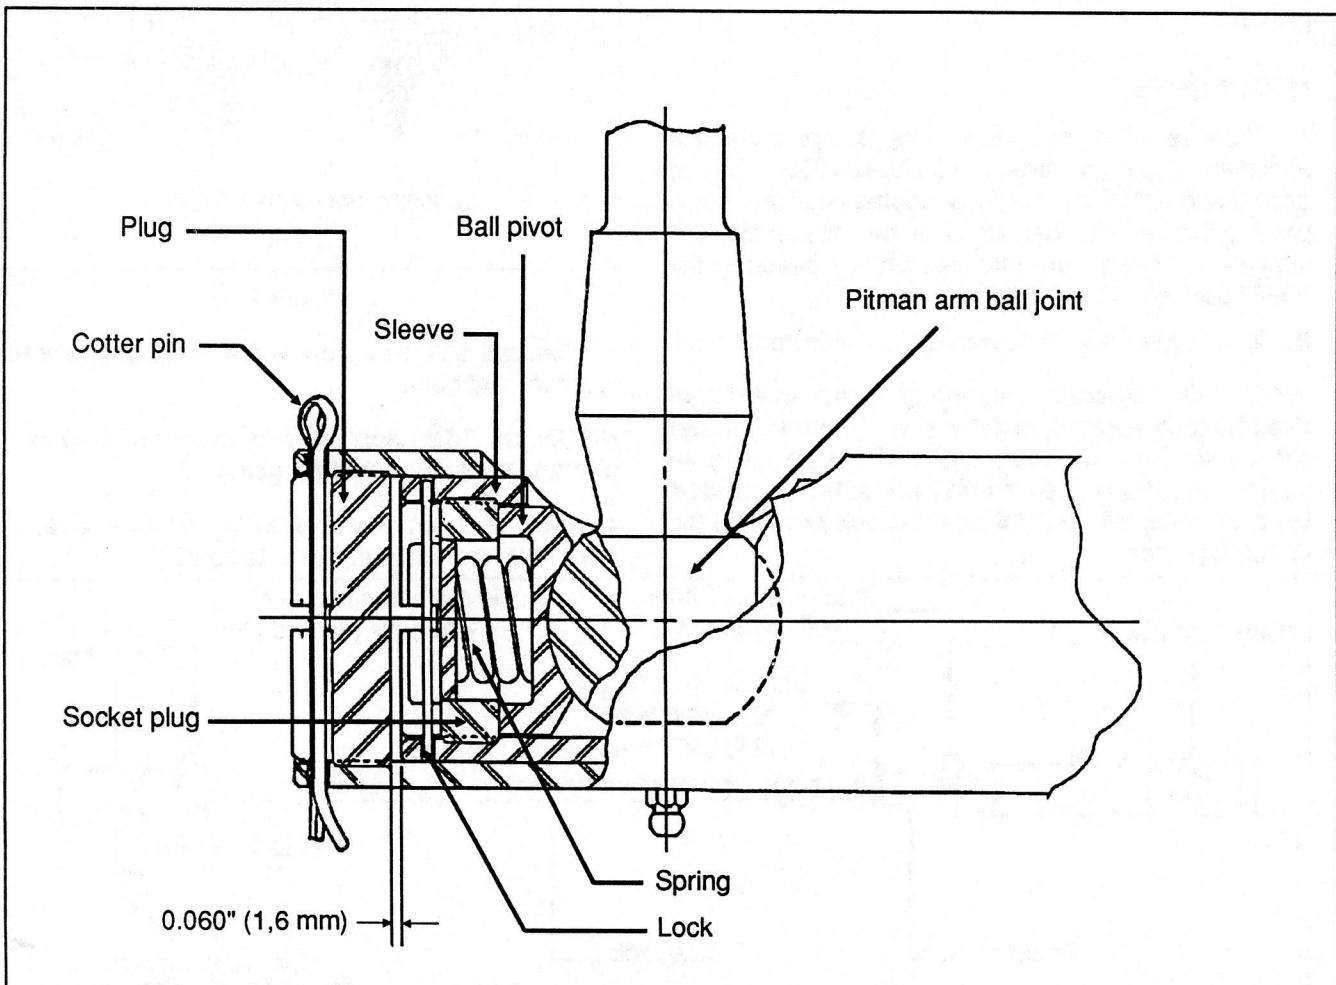

Figure 3
5. Remove cotter pin on "Garrison" valve G21. See figure 3.